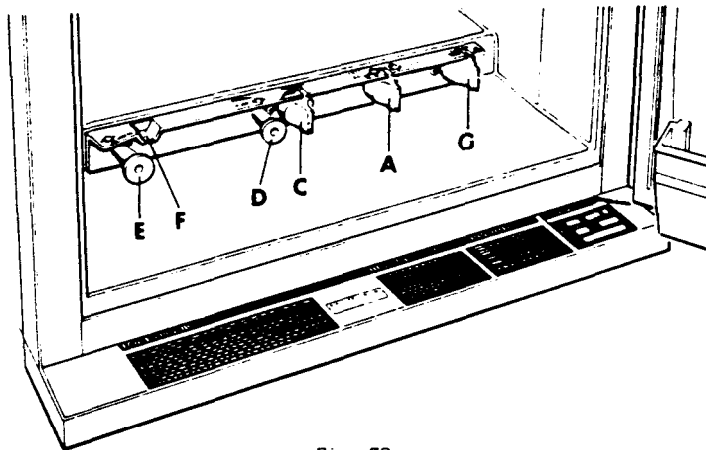

Fig. 72
26. GAS OPERATION (Fig. 72)
27. ELECTRIC OPERATION (Fig. 72)
The **RM36C**, RM46, RM47, **RM66**, RM67, **RM76** and RM77 models are equipped with a Piezo crystal lighting device which creates a spark over the burner when the button E is pushed in fully (see fig. 72).
1. Release the Piezo lighter knob "E" (see fig. 72) inside the cabinet by means of pulling the knob outwards.